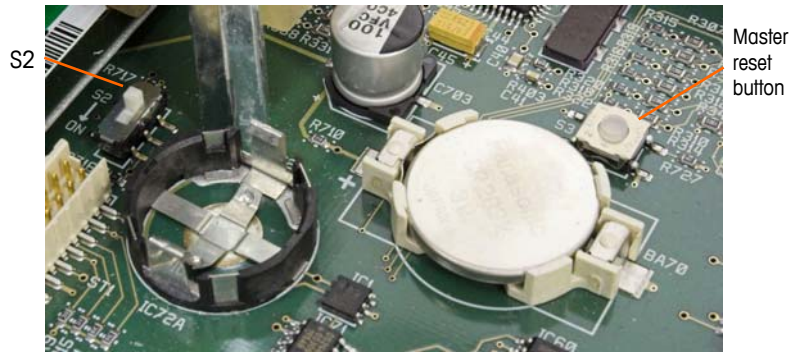

Figure 2-78: Main PCB Master Reset Button Location
To erase all programming in the terminal and reset all settings (except metrologically significant scale calibration data) to their factory default values, press the master reset button adjacent to the battery. Figure 2-78 indicates the location of this button. This process is described in the IND780 Technical Manual, Chapter 4.0, Service and Maintenance.
- ▶ To reset scale data as well, S2 (shown in its OFF position in Figure 2-78) must be set to ON before the master reset.